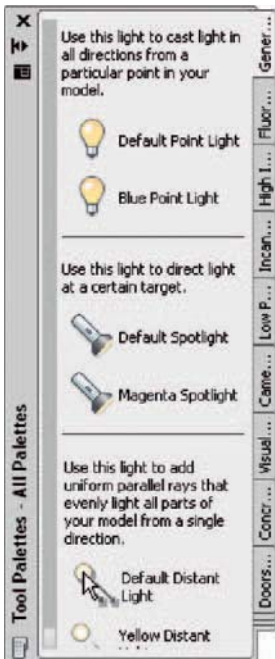

Fig. 15.29 The Generic Lights palette showing the Default Distant Light selected
5. There are several methods by which **Distant** lights can be called: by selecting **Default Distant Light** from the **Generic Lights** palette (Fig. 15.29), with a *click* the on the **Distant** icon in the **Render/Lights** panel, or by *entering distantlight* at the command line.